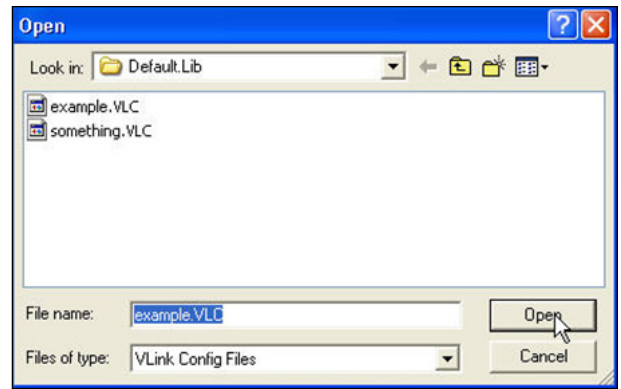

Figure 42: Loading Configuration
- e. Navigate to the .VLC file location and load the configuration for Channel 1 by selecting a file and clicking **Open**. Refer to **Figure 42**.